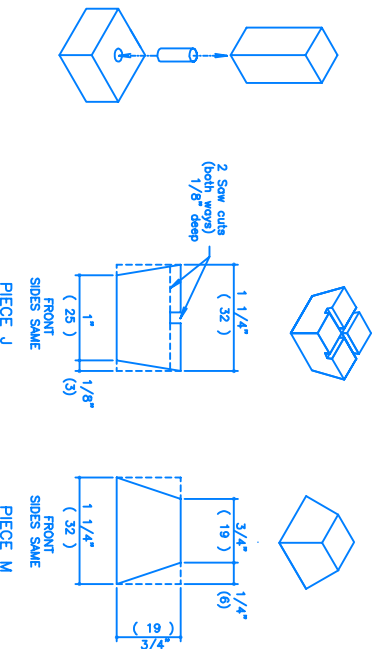

FIGURE 3
- 1) Lay out your material as outlined in the suggested materials layout (Fig 1). Draw out all parts exactly as illustrated in cutting diagram (Fig 2), including the letter designations, in pencil. Ensure to leave a small space between cut lines to allow for the width of the saw. Before cutting, double check all measurements to ensure they are correct. Always cut on the waste side of the line. For pieces M and J, you can sand the angle the width of grit sandpaper (to be used to sand the angle) to give the pieces a rounded shape shown (Fig 3). The "long" edge measurements are given. Exact detail is not critical, however the two pieces must be different enough that there will be no confusion during the game.